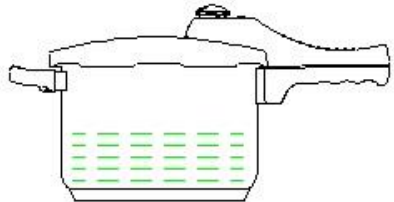

Fig. 2.
- **1/2 of the capacity - foaming or expanding foods, e.g. rice, legumes, soups, dried vegetables (Fig. 2).**